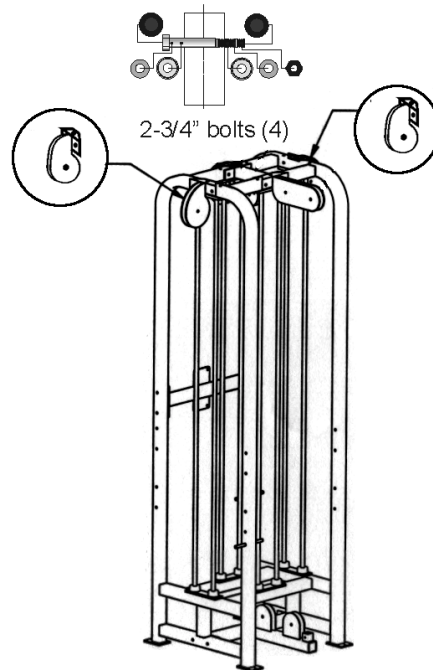
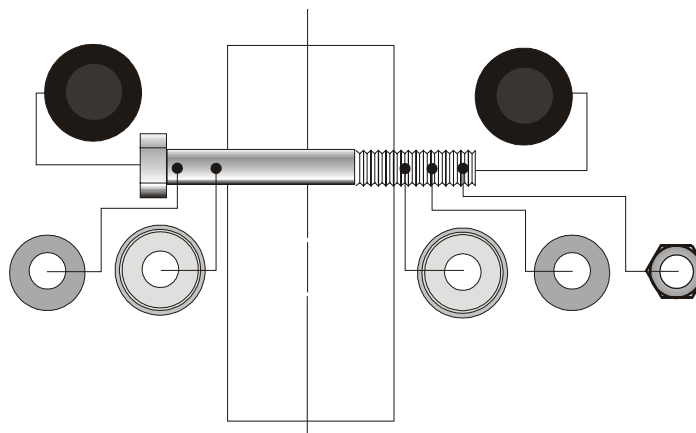

Figure 4. Bolt on the teardrop pulleys.
Figure 5. Configuration for 2-3/4" and 3" bolts.
2. Bolt on the teardrop pulleys above the benches (see Figure 4) on both cubes using two 3/8" x 2-3/4" hex head bolts (used to bolt the cross beam to the cross members and the adjustable pulley tops to the top beams). Include the 3/8" flat washer, end cap washers, end caps and 3/8" Nyloc (locknut). Use the bolt configuration shown in Figure 5. You may wish to use a pinch bar to align the bolt holes.
Hardware Figure 4 shows the types of cables that are included with the SM81.
Hardware Figure 4. Cables.